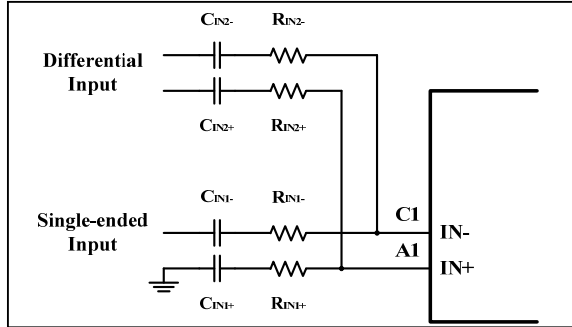

Figure 13 Summing Differential Input and Single-Ended Input Signals
Figure 13 shows how to sum a differential input signal and a single-ended input signal. Ground noise may couple in through IN- with this method. It is better to use differential inputs. The gain for each input source can be set independently by Equations (4) and (5). The corner frequency of the single-ended input is set by C_{IN2} , shown in Equation (6).